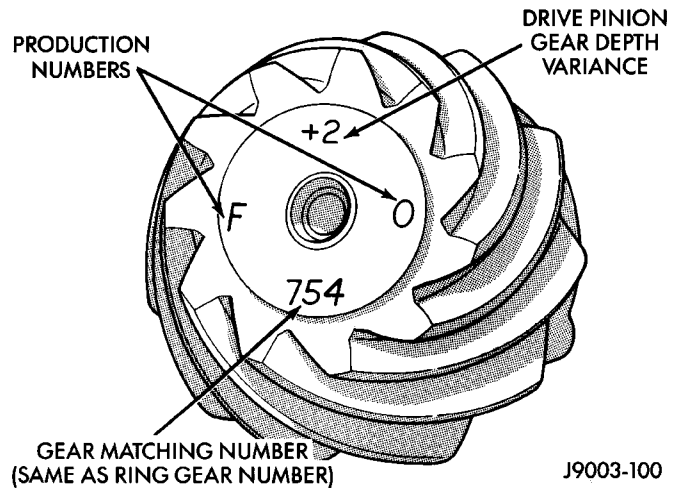

Fig. 67 Pinion Gear ID Numbers
Ring and pinion gears are supplied as matched sets only. The identifying numbers for the ring and pinion gear are etched into the face of each gear (Fig. 67). A plus (+) number, minus (-) number or zero (0) is etched into the face of the pinion gear. This number is the amount (in thousandths of an inch) the depth varies from the standard depth setting of a pinion etched with a (0). The standard setting from the center line of the ring gear to the back face of the pinion is 109.52 mm (4.312 in.). The standard depth provides the best teeth contact pattern. Refer to Backlash and Contact Pattern Analysis Paragraph in this section for additional information.
(9) Select a shim equal to the dial indicator reading plus the drive pinion gear depth variance number etched in the face of the pinion gear (Fig. 67) using the opposite sign on the variance number. For example, if the depth variance is -2, add +0.002 in. to the dial indicator reading.
(10) Remove the pinion depth gauge components from the axle housing